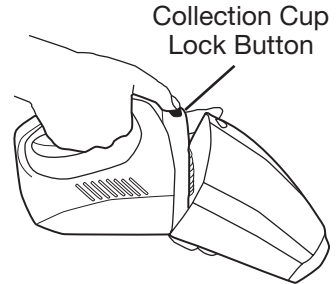

Figure 3
2. Press the collection cup lock button to release the collection cup from the vacuum. (See Figure 3.)